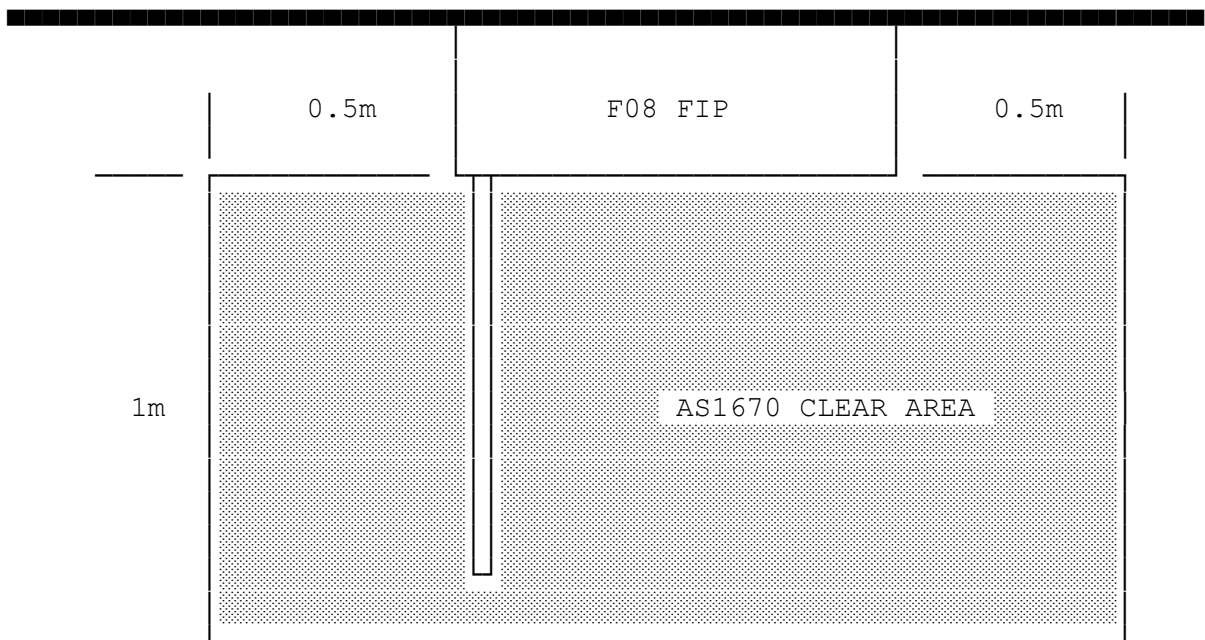

Figure 2.2
- (f) For unhampered installation and maintenance, at least 1 metre free space must be provided to the front and sides of the F08 FIP. (see Figure 2.2)